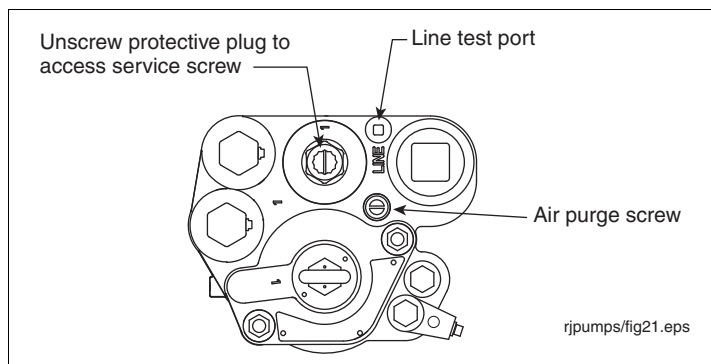

Figure 33. Service Screw, Line Test Port And Air Purge Screw Locations
3. Remove line test port plug (see Figure 33). Apply line test pressure at line test port (50 psi [345 kPa] maximum).
6. Turn the air purge screw 2 - 3 turns counterclockwise (see Figure 33).
1. Remove and retain the protective plug over service screw and turn the screw clockwise (see Figure 33). As the screw approaches its bottom position, you will hear the system depressurizing. Continue turning the screw until it can go no further.